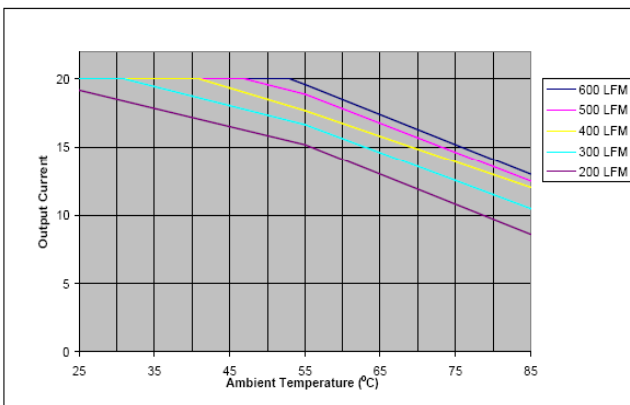

Figure 9: Output load current vs. ambient temperature curves at $V_{in} = 48 \text{ V}$ for openframe version ALQ20B48x-x series.
4. Output derating applies at elevated temperature. See Figures 9 and 10.